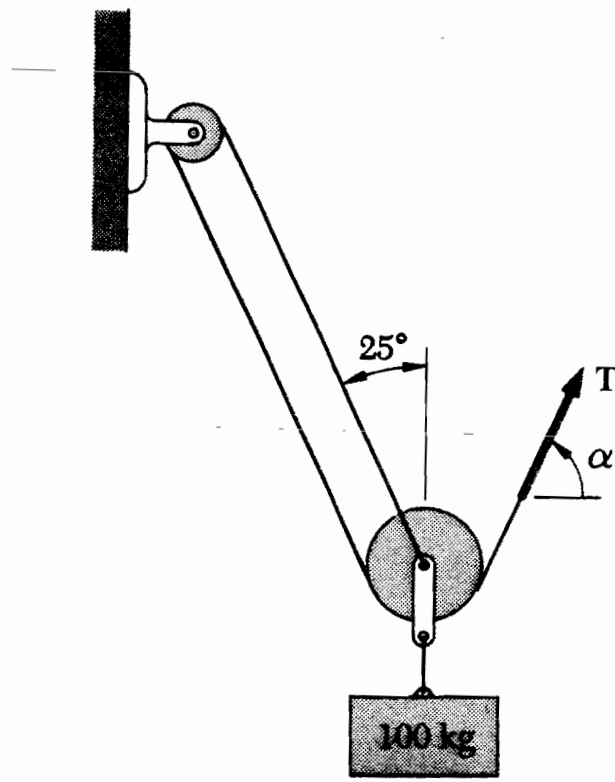

Fig. P2
- 2- A 100-kg crate is to be supported by the rope-and-pulley arrangement shown in Fig. P2. Determine the required magnitude and direction of the force  $T$ . [Secs. 3.1 - 3.3] (15 pts.)